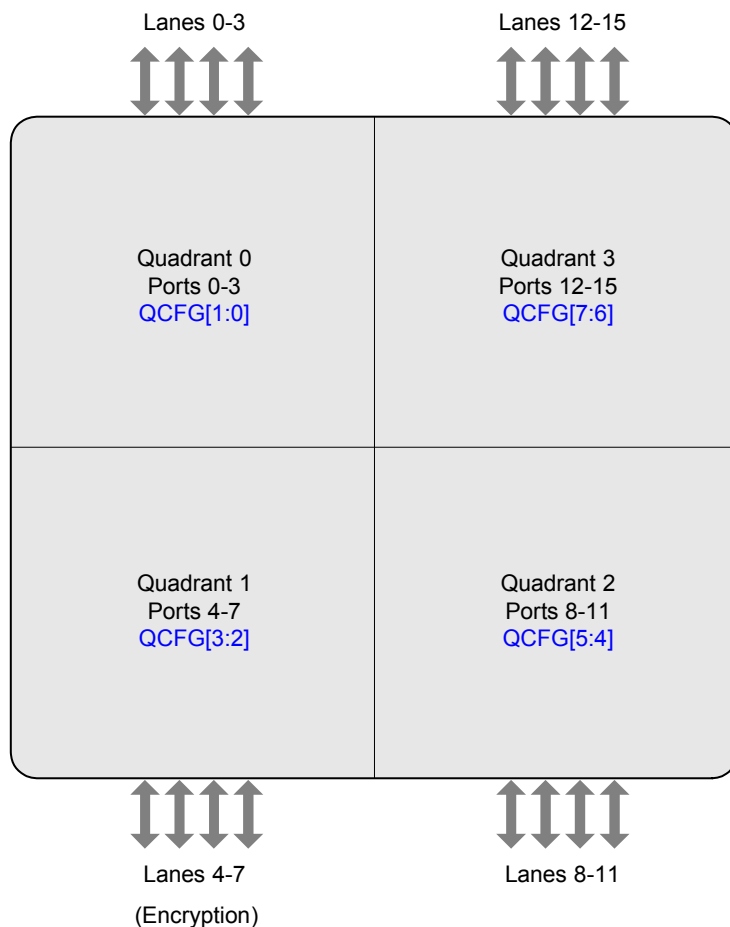

Figure 3: Quadrant Configuration using QCFG[7:0]
- Optional encrypt and decrypt mode on four S-RIO ports secures data (see Figure 3)